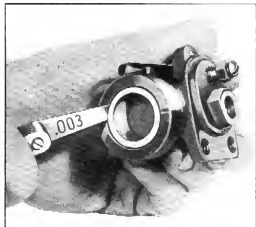

Fig. 27—Checking Wheel Cylinder Piston Fit
- Check the fit of the piston in the cylinder bore, using a feeler gauge, Fig. 27. This clearance should be from 2 to 4 thousandths of an inch.